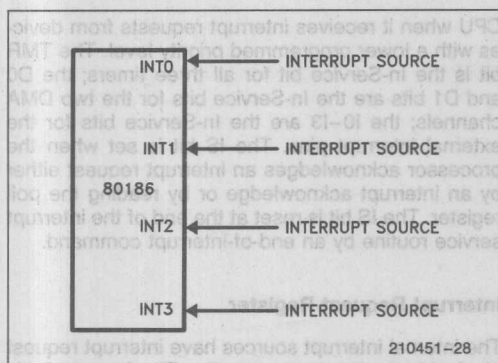

Figure 22. Fully Nested (Direct) Mode Interrupt Controller Connections
When in the fully nested mode four pins are used as direct interrupt requests as in Figure 22. The vectors for these four inputs are generated internally. An in-service bit is provided for every interrupt source. If a lower-priority device requests an interrupt while the in-service bit (IS) is set, no interrupt will be generated by the interrupt controller. In addition, if another interrupt request occurs from the same interrupt source while the in-service bit is set, no interrupt will be generated by the interrupt controller. This allows interrupt service routines to operate with interrupts enabled, yet be suspended only by interrupts of higher priority than the in-service interrupt.